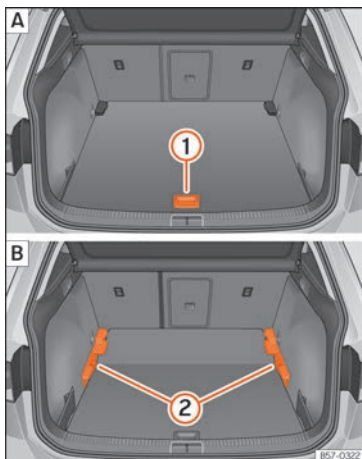

Fig. 120 Variable luggage compartment floor:
- To move from the low position to the high position, lift the floor using the handle »» Fig. 120 ①, and pull it back until the front of the floor has fully passed the supports »» Fig. 120 ②.
- Move the floor forward over the supports as far as the rear seat backrest and then lower the floor with the handle ①.
- To move from the high position to the low position, lift the floor using the handle »» Fig. 120 ①, and pull it back until the front of the floor has fully passed the supports »» Fig. 120 ②.
- Now let the front part fall to the floor and slide the floor forwards as far as the rear seat backrest; lower the floor at the same time with the handle ①.
- Lift the variable floor in the high position using handle »» Fig. 120 ①, pull it up and push it towards the backrest of the rear seats until it folds along the hinge line and the movable part of the floor is resting on itself.
- To move from the high position to the low position, lift the floor using the handle »» Fig. 120 ① and pull it back a little.
- Push the variable floor towards the folded rear seats with the handle ① using some downward pressure so that the moving part of the floor is flush with the backs of the rear seats.